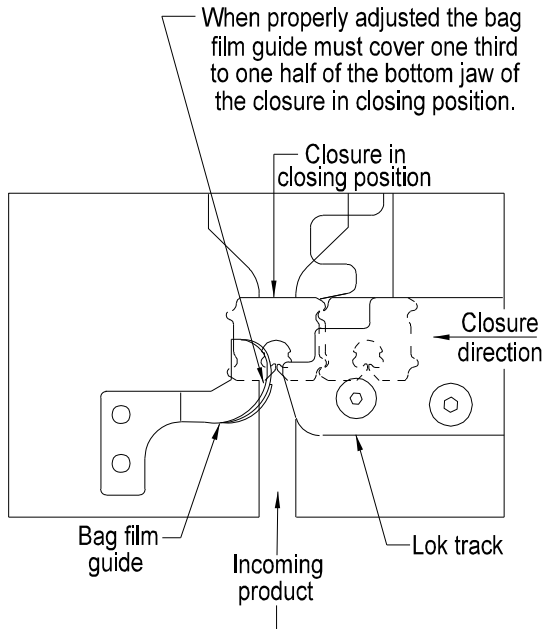
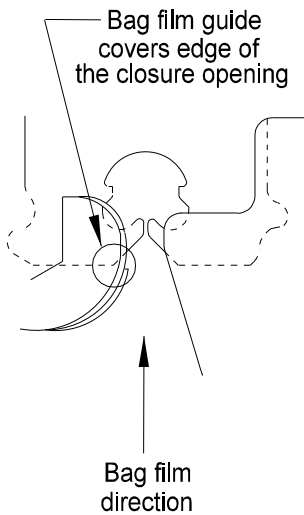

Figure 5.10
Figure 5.11
## F. BAG FILM GUIDE: Figures 5.10 - 5.13
**PROPER ADJUSTMENT:** The bag film guide provides two functions. When properly set it protects the bag film from contacting the edge of the closure opening (Note encircled area Figure 5.11), and The film guide also cams the jaws of the closure open to assist in feeding bag film into the closure (Figure 5.11). The bag film guide is properly adjusted when in the position shown (Figures 5.10, 5.11).
2. Loosen the bag film guide mounting block screws (located on top of main frame). Position the bag film guide as shown in (Figure 5.10 and 5.11) and retighten screws.